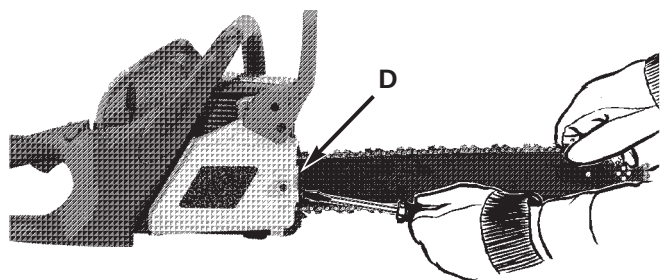

Fig. 22
1. Loosen bar nut, hold nose of guide bar up and turn adjustment screw (D) CLOCKWISE to increase chain tension. Turning screw COUNTERCLOCKWISE will decrease amount of tension on chain. Ensure the chain fits snugly all the way around the guide bar (Fig. 22).